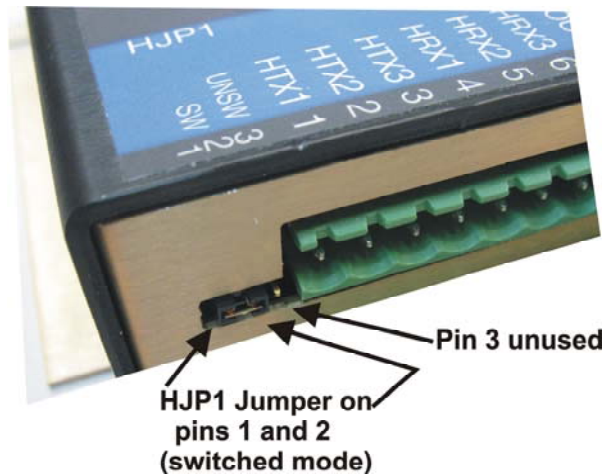

Figure 2-1. Setting Jumper HJP1
HJP1 Jumper Operation	If you don't install a jumper, or if you install the jumper between pins 1 and 2 (SW), the hazardous interface operates in switched mode. If you install the jumper between pins 2 and 3 (UNSW), the hazardous interface operates in unswitched mode. Figure 2-1 shows the jumper in switched mode.
You enable or disable switched mode for the hazardous interface by jumper position HJP1, and for the non-hazardous interface by jumper position NJP1 (see *Figures 2-1* and *2-2*). When either interface is in switched mode, the RX3 (NRX3 or HRX3) input of the opposite interface turns it on or off.
To configure the hazardous interface for switched mode, place the supplied shorting jumper in the HJP1 position marked SW (short HJP1 pins 1 and 2 as shown in *Figure 2-1*). If you don't install a jumper at HJP1 the hazardous interface defaults to switched mode. When you configure the hazardous interface for switched mode, the HTX outputs are in a high-impedance state when NRX3 is low (or negative), and the HTX outputs follow the NRX inputs normally when NRX3 is high (positive).
To configure the hazardous interface for unswitched mode, place the supplied shorting jumper in the HJP1 position marked UNSW (short HJP1 pins 2 and 3). This is the **opposite** jumper position of that shown in *Figure 2-1*. In unswitched mode, the HTX outputs remain on and they always follow the corresponding NRX inputs.